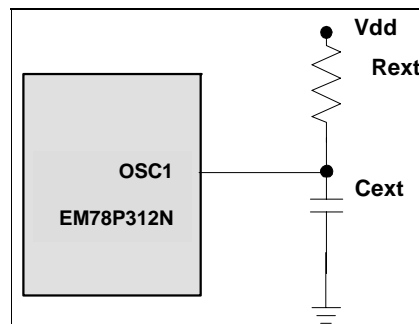

Fig. 5-33 External RC Oscillator Mode Circuit
The circuit shown in Fig. 5-33 use an external RC to produce the reset pulse. The pulse width (time constant) should be kept long enough for VDD to reach minimum operation voltage. This circuit is used when the power supply has slow rise time. Because the current leakage from the /RESET pin is about $\pm 5\mu\text{A}$, it is recommended that R should not be greater than 40K. In this way, the /RESET pin voltage is held below 0.2V. The diode (D) acts as a short circuit at the moment of power down. The capacitor C will discharge rapidly and fully. Rin, the current-limited resistor, will prevent high current or ESD (electrostatic discharge) from flowing to pin /RESET.